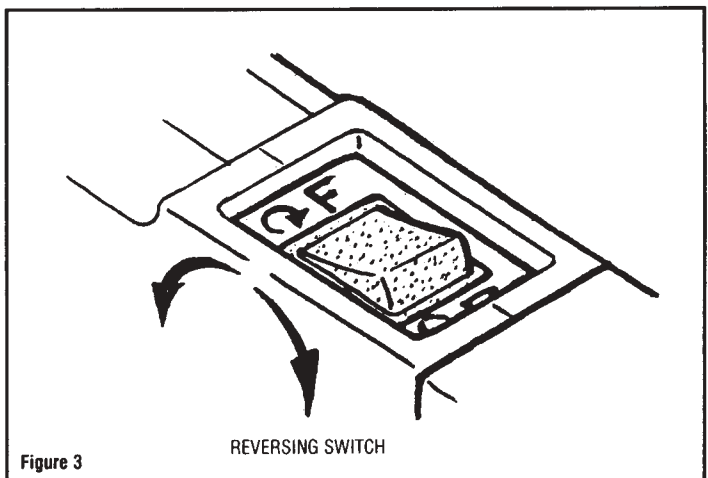

Figure 3
2. **Reversing Switch** - The rocker switch on the top side of the tool allows selection of the direction of bit rotation. Screws may be driven and withdrawn easily from the work material. Always check the direction of bit rotation before operating the tool. Set the switch to "F" (forward) for driving screws and "R" (reverse) for removing screws. See figure 3.